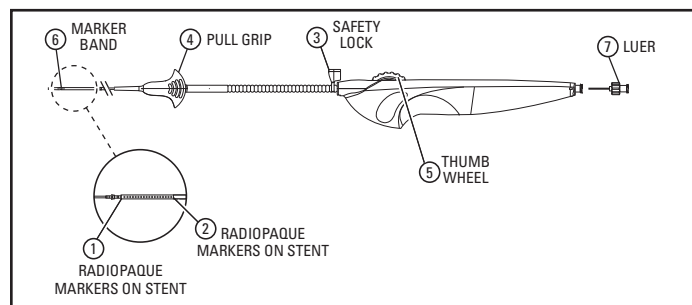

Figure 1.
7. If the safety lock ③ (Reference Figure 1) is not attached to the device, verify that the stent is fully constrained in the delivery system and place safety lock in position as shown in Figure 1.
8. Attach a 10 ml (cc) syringe filled with saline to the luer ⑦ (Reference Figure 1) on the handle. Apply positive pressure. Continue to flush until saline appears at the distal end of both the guidewire lumen and the sheath–tip junction. Note: If the luer is not present when received, the device may require greater than 10cc to flush entire device.
9. Remove the flushing luer ⑦.
Stent Deployment Procedure (Reference Figure 1)